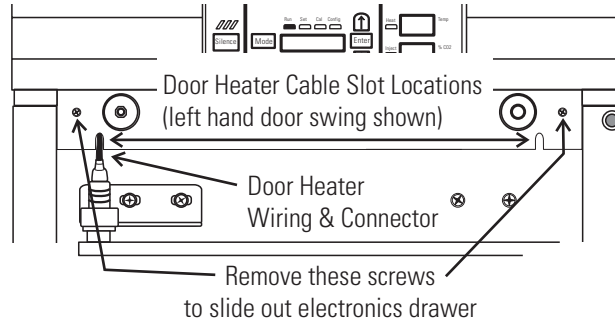

Figure 5-7. Screw Locations
2. Remove two screws as shown. See Figure 5-7.
1. When the fuse has been replaced, slide the electronics drawer back in, being very careful to place the door heater cable back into the provided slot (Figure 5-7) so that the drawer does not pinch the cable.